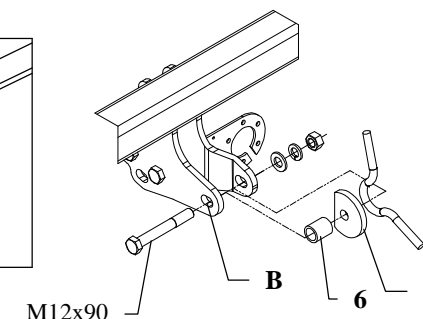

Fig. 3. Rear view
5. Through hole (pos. B) of the towbar fix with original towing eye – use truncate washer (pos. 7), distance sleeve $\varnothing 21\text{mm}$, L=25mm (pos. 6) and bolt M12x90mm (pos. 8) – see figure 3.
6. Fix tow-ball (pos. 2) with socket plate (pos. 3) using bolts M12x75mm (pos. 9) from accessories.